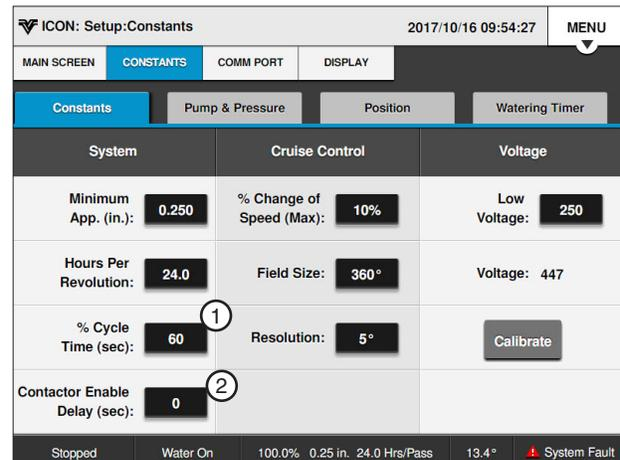

Figure 16-1 System Voltage Screen
1. Push **Menu**, **Setup**, **Constants** and **Constants** to display the System/Voltage screen. Refer to Figure 16-1.
The Contactor Enable Delay sets the delay (in seconds) until the contactor can be enabled. The range can be set from 0 to 5,000 seconds. Refer to Figure 16-1.
1. Push the **Menu**, **Setup**, **Constants** and **Constants** to display the System/Voltage screen. Refer to Figure 16-1.